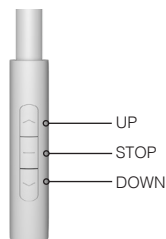

Figure 4: Wand Control Buttons
1. Make sure the wand control buttons **[Figure 4]** are facing forward for easy operation. Slide the hook at the end of the wand through the eyelet attached to the motor head until the wand hangs down freely **[Figure 1]**.
Once your shade is installed, check the operation. The wand has three buttons: **UP**, **STOP**, and **DOWN** **[Figure 4]**.